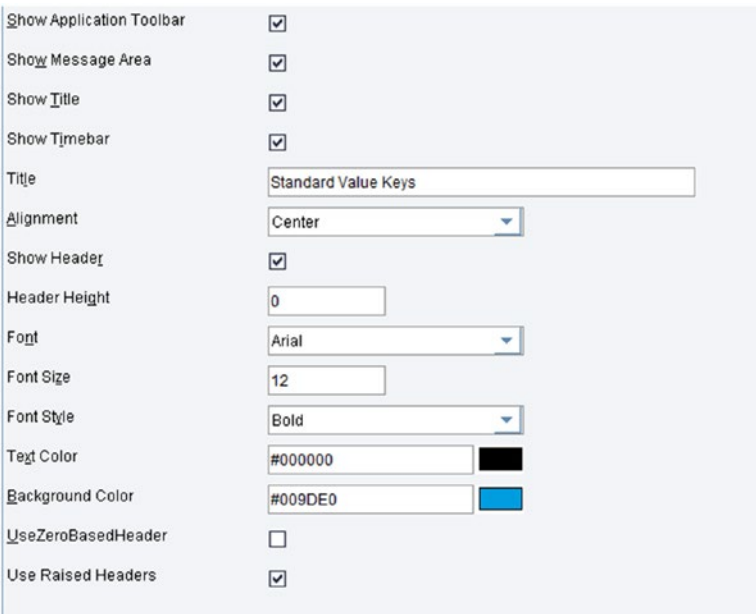

Figure 7-29. *i5Grid header configuration*
- *i5Grid Header:* This configures the header property. See Figure 7-29.